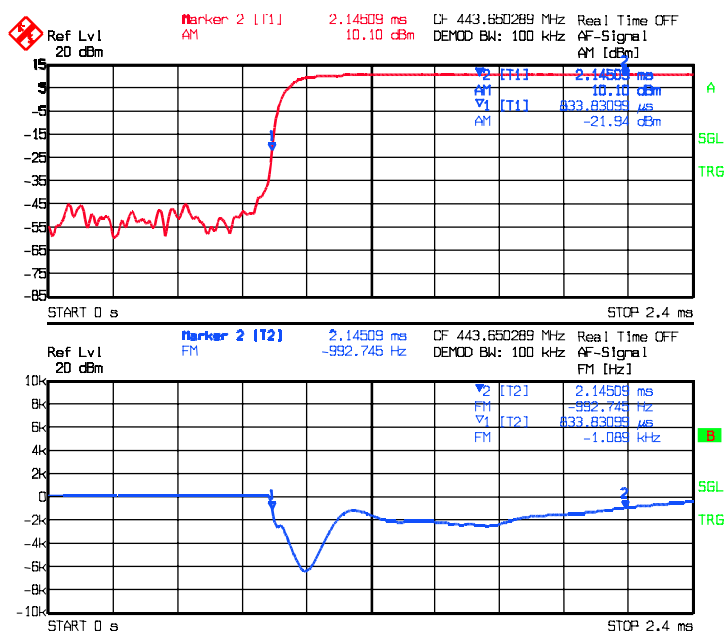

Fig. 6: Transient behaviour and attack time of transmitter under test
- Switch the transmitter off and on again, the FSE now displays as shown in Fig. 6.
The time mask for the transient frequency behavior can be included with limit lines. Two limit lines are required to construct the mask. An example for setting up the mask used in Fig. 6 is given below.